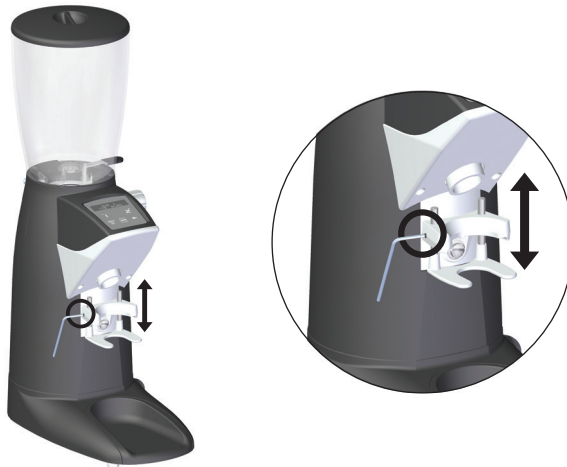

Fig. 2
1. Loosen the two adjustment screws (10) found on each side of the upper portafilter fork (16), by using the *Allen Key* included with your grinder.
3. Tighten the screw (10) found on each side of the upper portafilter fork (16), with the *Allen Key* provided (*Fig. 2*).